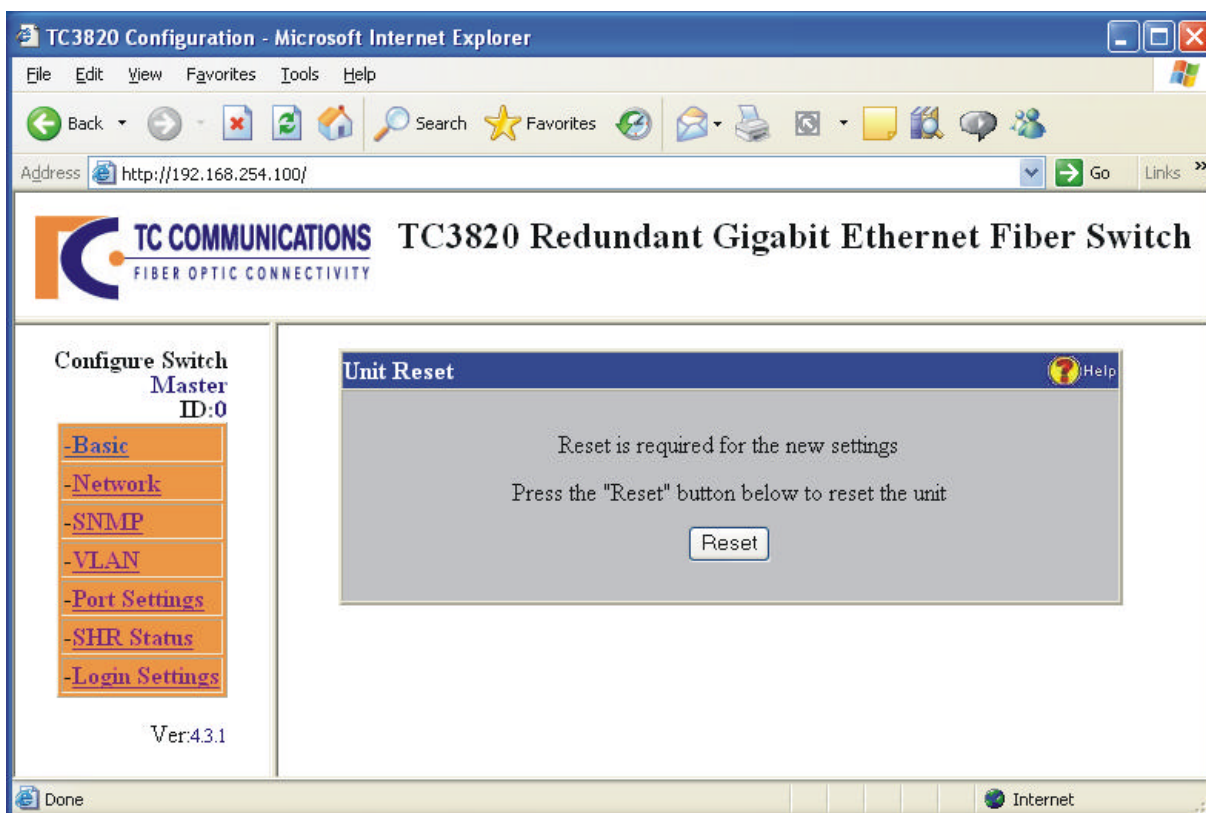

Figure 16. TC3820 New Settings Saved Window
1. Enter the new username and/or password and click Apply. You will then see a window as in Figure 16 on page 27. Click "reset" to save all the changes.